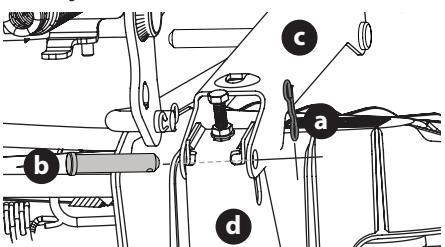

Figure 45
- a. Remove the two bow-tie pins (a) from the clevis pins (b) that secure the lift link brackets (c) to the rear deck lift brackets (d) on the deck. Remove the clevis pins (b) (Figure 45).